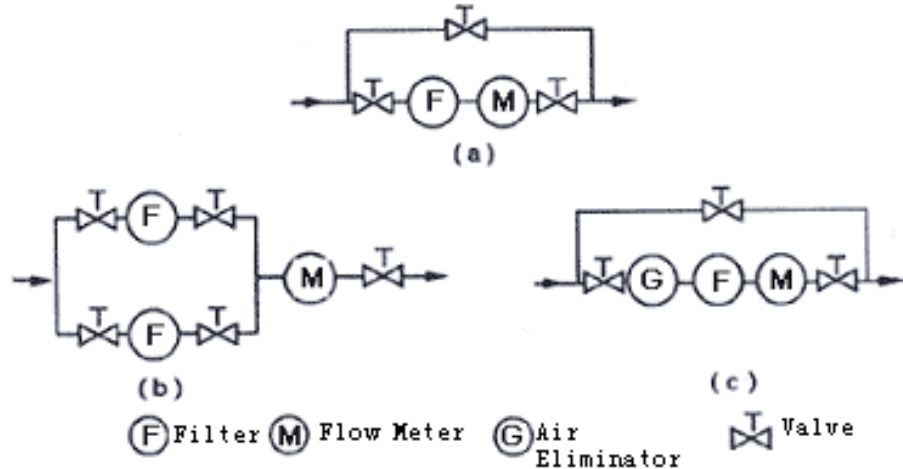

Fig.13
- a) The Flow Meter pipeline arrangement is as shown in Fig.13
Roots Flow Meter must be installed upright and within horizontal pipelines only; For operation and maintenance reason, to ensure that flow in pipeline will not be interrupted during maintenance, by-pass pipe is needed, as shown on Fig.13 (a); if there is much impurities in the fluid, the filter needs frequent cleaning; in that case, to minimize any affection to the flow meter working, two filters being installed in parallel for alternative operation and cleaning is usually required; such pipeline arrangement refers to Fig.13(b); Fig.13(c) shows Air Eliminator being installed; If flow meter no interruption measurement is required or the maximum flow rate is higher in pipeline, two or more flow meters to be installed in parallel are applicable; each flow meter can be arranged as shown on Fig.13, even with a shared by-pass pipeline;